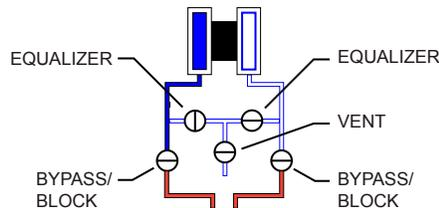

Figure 2.28 - Valve positions for differential pressure calibration
- Close the bypass valves to isolate the pressure below the manifold (Figure 2.28).